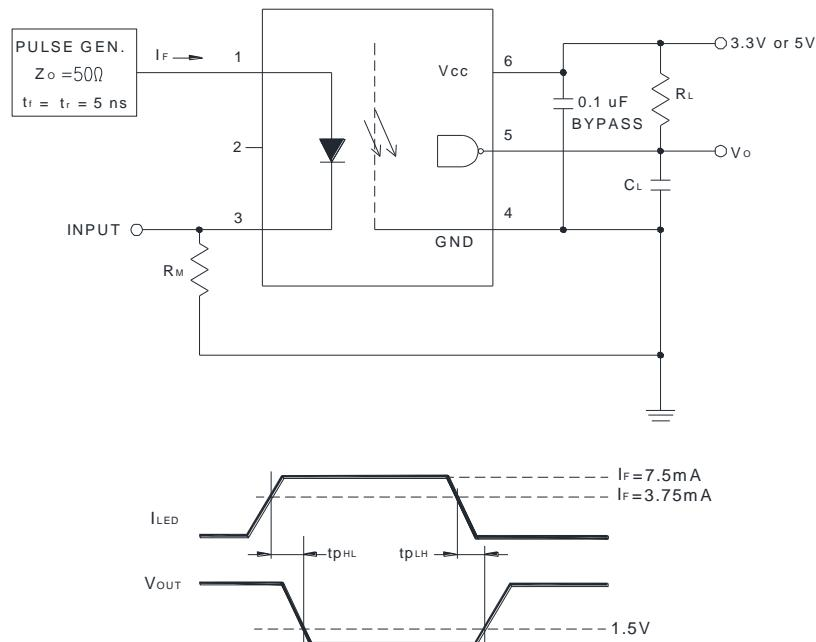

Figure 1: Test Circuit for  $t_{PHL}$  and  $t_{PLH}$
1. A 0.1µF or bigger bypass capacitor for VCC is needed as shown in Fig.1